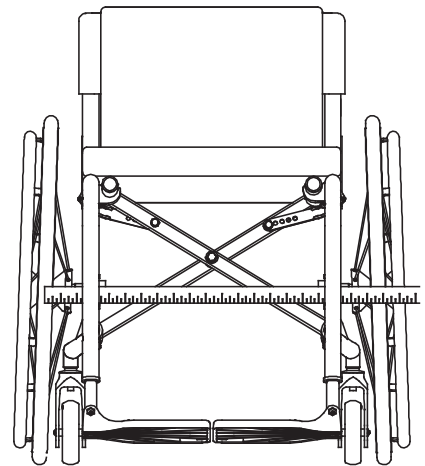

Figure 62
9. Measure the distance between the left and right tires at the front reference marks made in step 7 ("Measurement C"). See Figure 62.